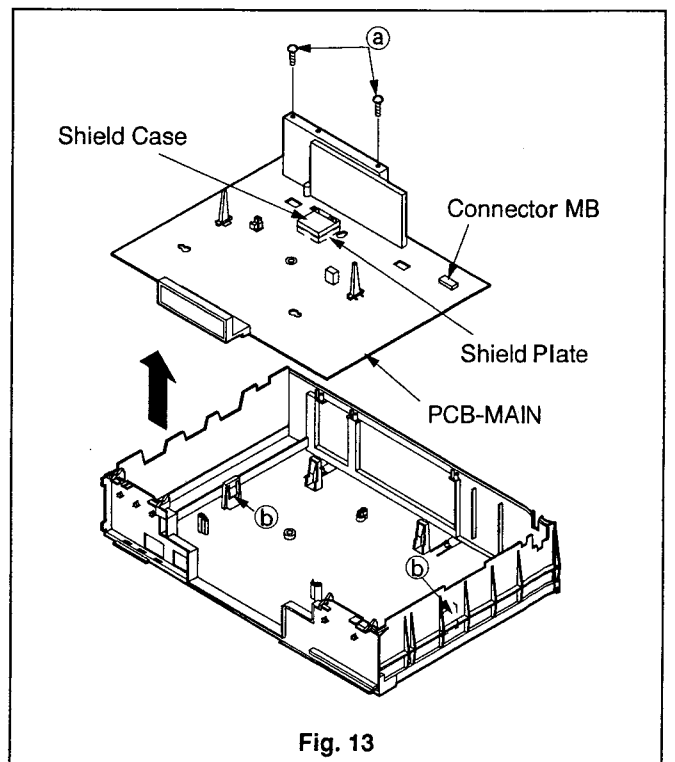

Fig. 13
3. Remove the two screws (a) shown in Fig. 13.
6. Release the two fastening catches (b) shown in Fig. 13. Raise the PCB-MAIN to remove it.
1. Unsolder the four soldered points of the Shield Case shown in Fig. 13 and remove it.
2. Unsolder the three soldered points of the Shield Plate shown in Fig. 13 and remove it.